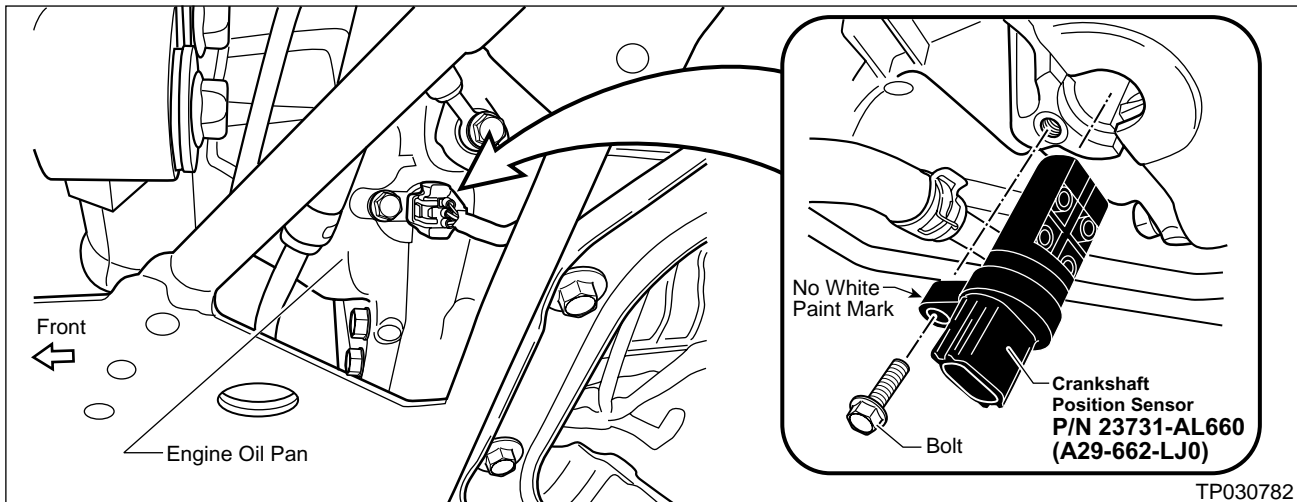

Figure 19
3. Locate the **Crankshaft Position Sensor** (see Figure 19).